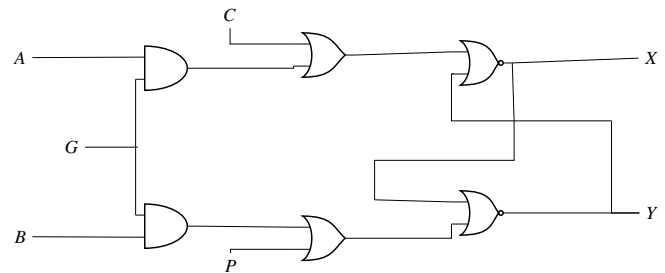

Fig. 3.40
58. For the following circuit Fig. 3.40, the correct logic values for the entries  $X_2$  and  $Y_2$  in the truth table in Table 3.9